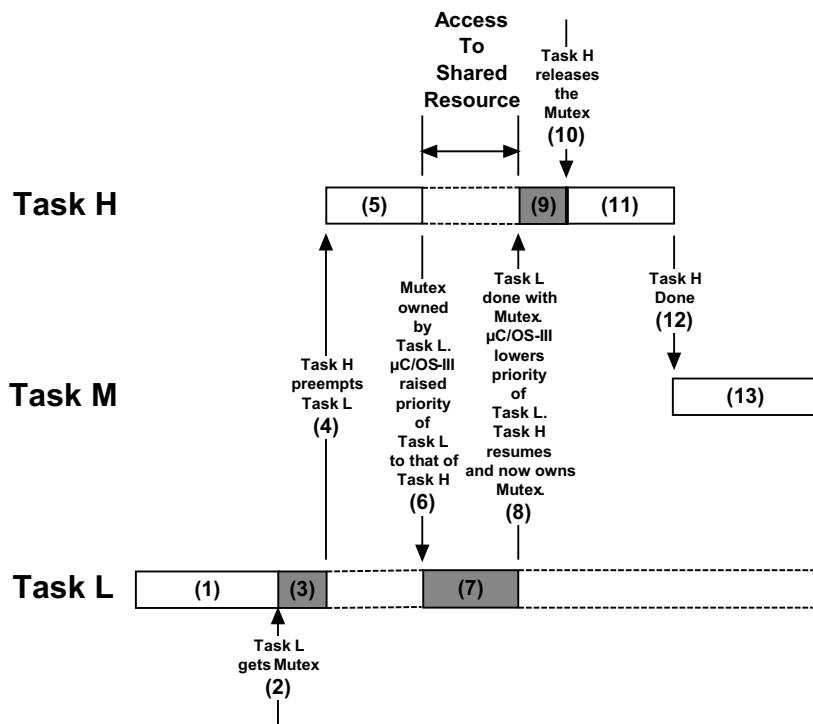

Figure 13-5 Using a mutex to share a resource
μ C/OS-III supports a special type of binary semaphore called a mutual exclusion semaphore (also known as a mutex) that eliminates unbounded priority inversions. Figure 13-5 shows how priority inversions are bounded using a Mutex.
- F13-5(2) At some point, Task L acquires a mutex, which it needs before it is able to access a shared resource.
- F13-5(3) Task L performs operations on the acquired resource.
- F13-5(4) The event that Task H waited for occurs and the kernel suspends Task L and begins executing Task H since Task H has a higher priority.
- F13-5(5) Task H performs computations based on the event it just received.
- F13-5(6) Task H now wants to access the resource that Task L currently owns (i.e., it attempts to get the mutex from Task L). Given that Task L owns the resource, μ C/OS-III raises the priority of Task L to the same priority as Task H to allow Task L to finish with the resource and prevent Task L from being preempted by medium-priority tasks.
- F13-5(7) Task L continues accessing the resource, however it now does so while it is running at the same priority as Task H. Note that Task H is not actually running since it is waiting for Task L to release the mutex. In other words, Task H is in the mutex wait list.
- F13-5(8) Task L finishes working with the resource and releases the mutex. μ C/OS-III notices that Task L was raised in priority and thus lowers Task L to its original priority. After doing so, μ C/OS-III gives the mutex to Task H, which was waiting for the mutex to be released.
- F13-5(9) Task H now has the mutex and can access the shared resource.
- F13-5(10) Task H is finished accessing the shared resource, and frees up the mutex.
- F13-5(11) There are no higher-priority tasks to execute, therefore Task H continues execution.
- F13-5(12) Task H completes and decides to wait for an event to occur. At this point, μ C/OS-III resumes Task M, which was made ready-to-run while Task H or Task L were executing. Task M was made ready-to-run because an interrupt (not shown in figure 13-5) occurred which Task M was waiting for.
- F13-5(13) Task M executes.